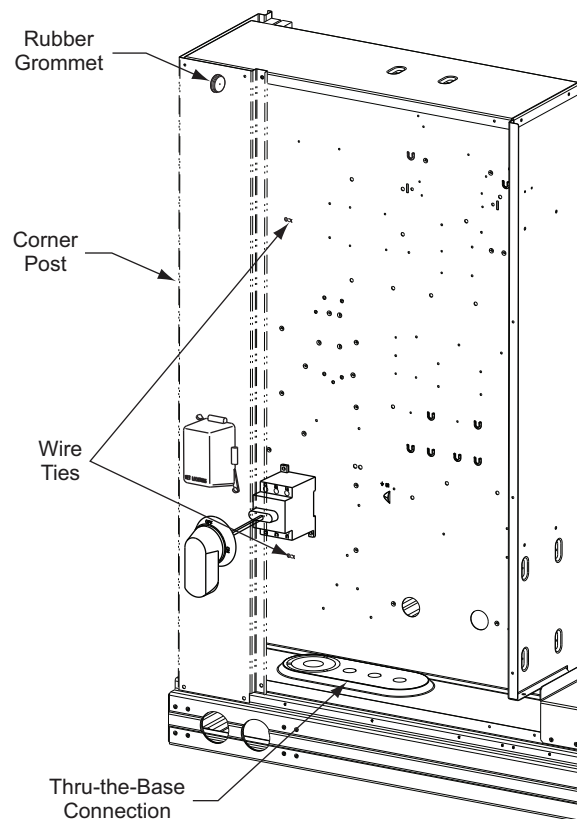

Fig. 10 — Low Voltage Wiring Raceway
14. All low voltage wiring should be routed through the provided wire ties (see Fig. 10) down the left side of the control box or secured to the unit control box with an electrical conduit in order to provide UL-required clearance between high-voltage and low voltage wiring.